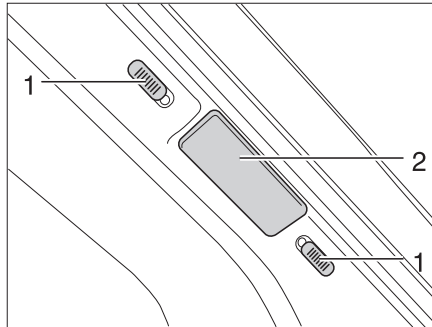
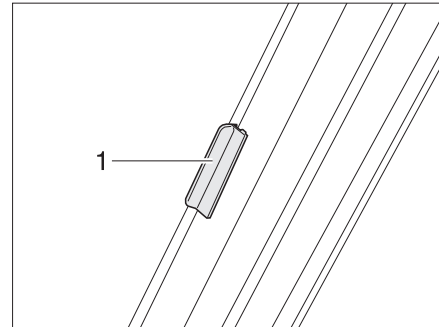

Fig. 24 Lock for the Roman shade of the windscreen
Fig. 25 Lock for the Roman shade of the windscreen (model I)
- Use the handle (Fig. 24,2 and Fig. 25,1) to pull the two halves of the Roman shade for the windscreen outwards as far as they will go.
- Push the locking knobs (Fig. 24,1) upward or downward. If the red dot is visible, the lock is open.